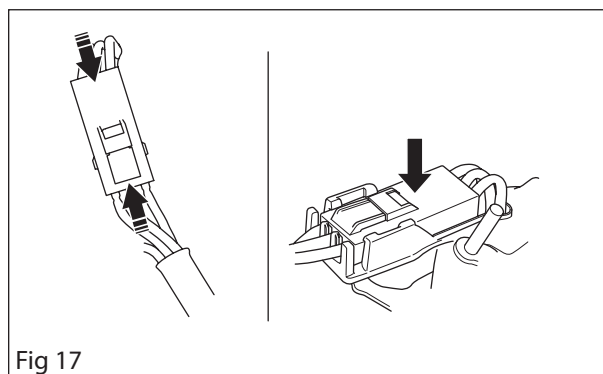

Fig 17
1. Press the connector together and push it into place in the holder. See figure 17.